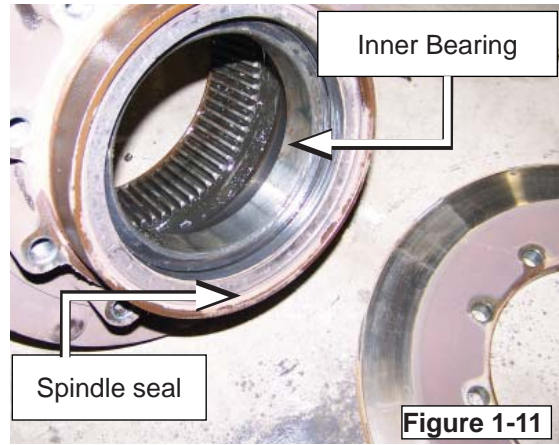

Figure 1-11
14. Drive or pry the seal from the hub (FIGURE 1-11).